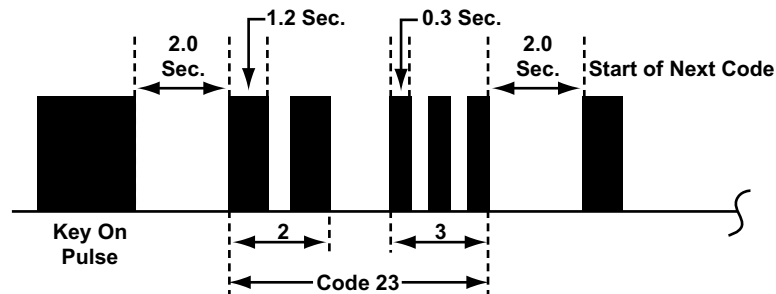

Figure 4-28 Acura SRS Code Type 07
- Type 07, see Figure 4-28 and Table 4-14 on page 30